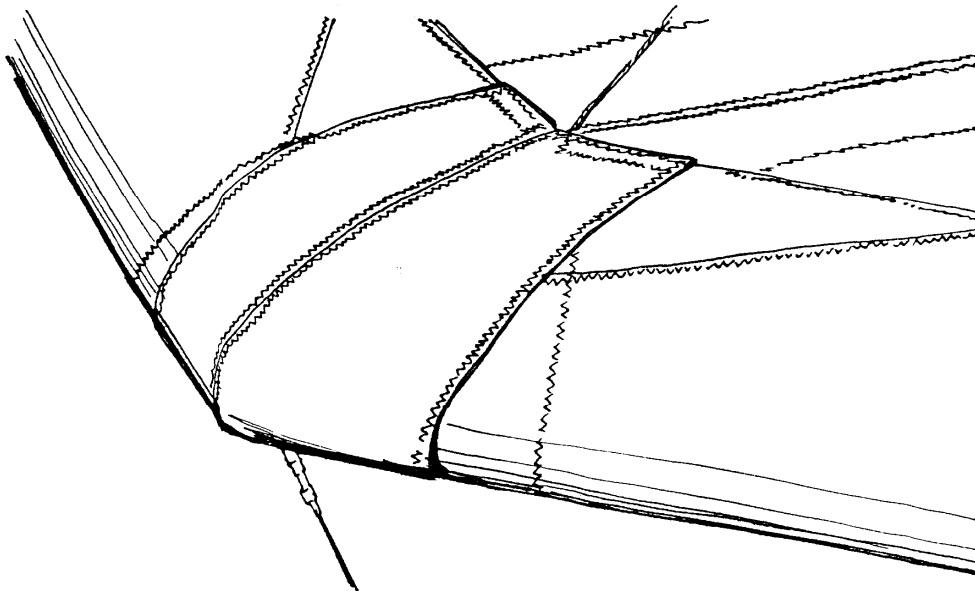

Fig.37
3.13. Fit the nose cone over the front of the keel and attach the velcro at the top rear of the nose cone. Rest the glider back on it's tail and pull the bottom corners of the nose cone back until the nose cone is tight around the nose and secure the velcro on the bottom of the nose cone (Fig.37, 38).